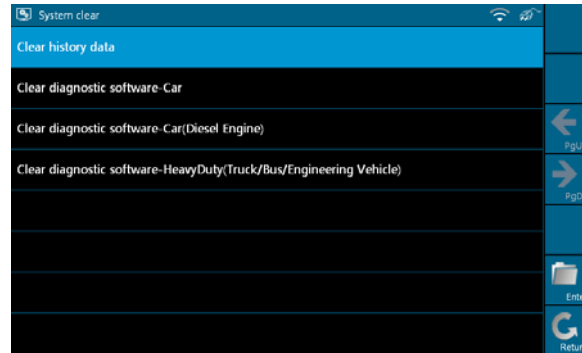

Figure 2-24
Click [Diagnostic] to enter Figure 2-24.
1. In Figure 2-24, select [Clear history data] and click [Enter] to enter Figure 2-25. Select one item that you want to clear and click [Clear].
- On figure 2-24, select [Clear diagnosis software-Car] and click [Enter]. Select one car model that you want to clear, as shown in Figure 2-27 and click [Fast Clean].